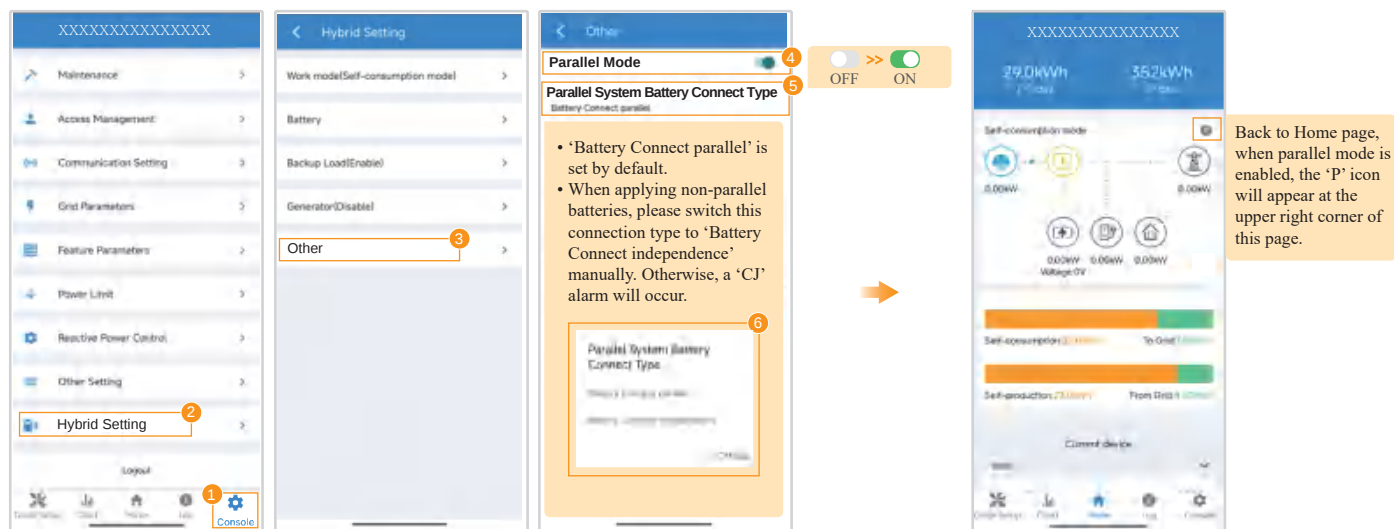

Figure 4-4 Enable parallel mode and select battery connection type
Step 4 Go to **Console > Hybrid Setting > Other** to enable parallel mode, and then select the appropriate battery connection type and phase position. All inverters in the system should be configured with these parameters, as shown in Figure 4-4--4-5.